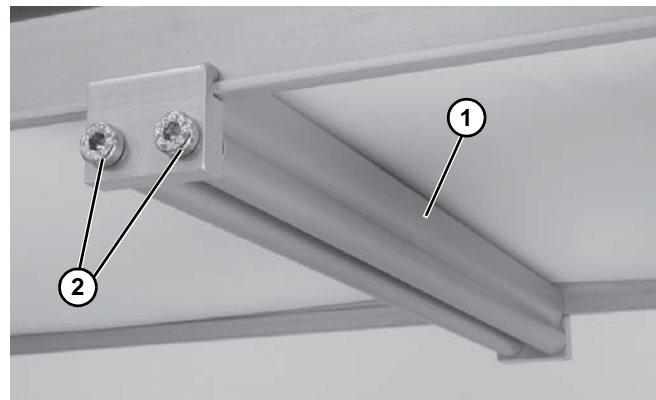

Figure 21
3. Install roller assembly as shown (Figure 21, item 1). Tighten screws (Figure 21, item 2) to 60 in-lb (7 Nm).